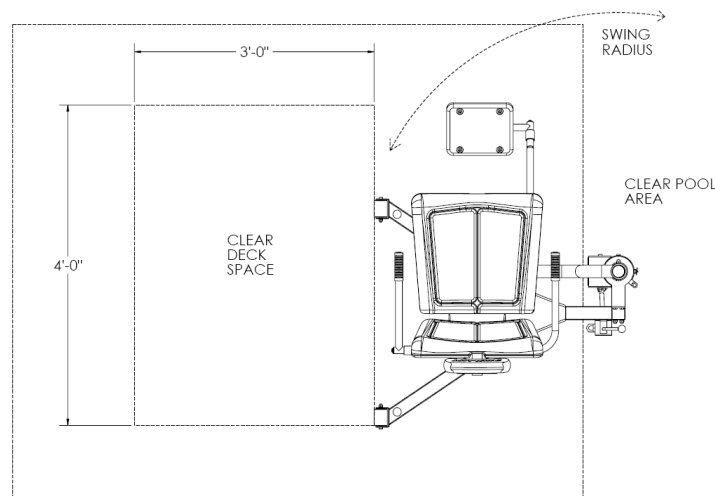

Figure 1
13. Install Headrest assembly in the receiver on the back of the seat frame and secure with the plastic Lobe knob screw as shown in figure 1.